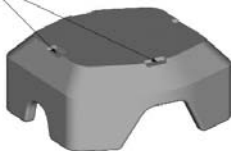

Figure 6:
- Fig. 6** Spring Control™
All parts of the side bearing including springs should be free of cracks. For Spring Control™ bearings only, check the vertical interlock feature on the interior of the cap for severe wear and replace cap if needed. In addition, refer to figures 6 and 7 for the wear indicator condemning limits for both Spring Control™ and Ride Control® bearings.